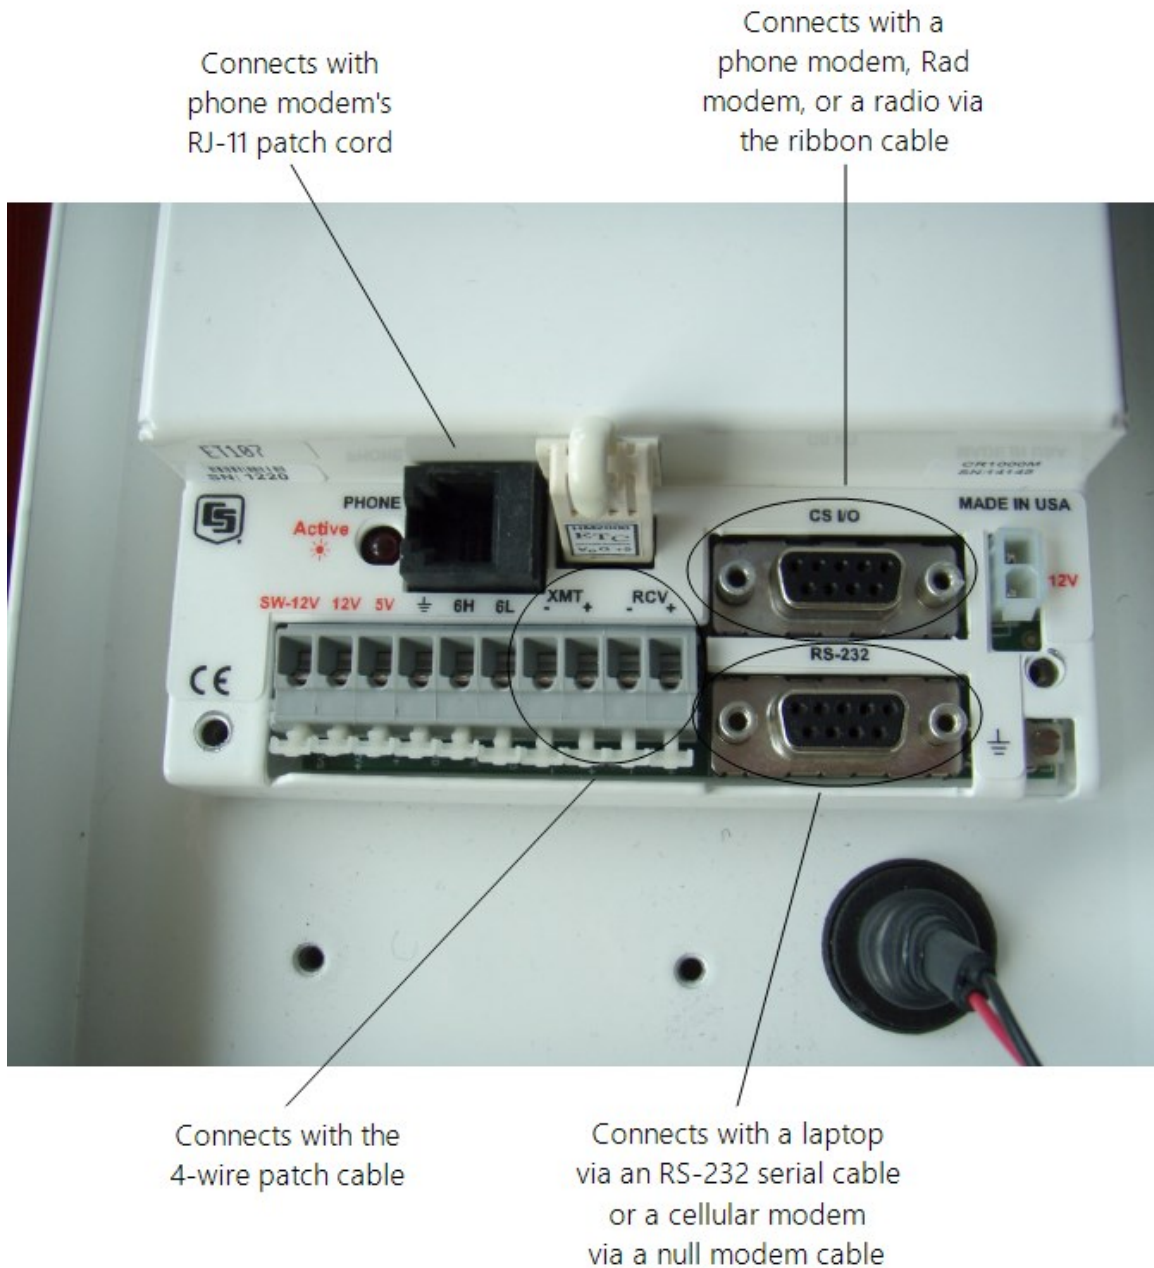

FIGURE 6-22. Close-up of the terminals and 9-pin ports in the ET107 (battery not shown)
The ET107 station does not require an interface device for direct RS-232 communications. The inside of the enclosure has a RS-232 and CS I/O port available for communications (see FIGURE 6-22 (p. 37)). Most standard communications options use the CS I/O port leaving the RS-232 port free for direct communications with a laptop or desktop computer using a standard RS-232 serial cable. The data logger used in the ET107 station can communicate with more than one device at a time allowing troubleshooting to be done in the field with a laptop computer while remote communications devices are accessing the station.
2. Connect the modem 9-pin port to the enclosure CS I/O port with the ribbon cable supplied with the enclosure (FIGURE 6-22 (p. 37), FIGURE 6-23 (p. 38)).